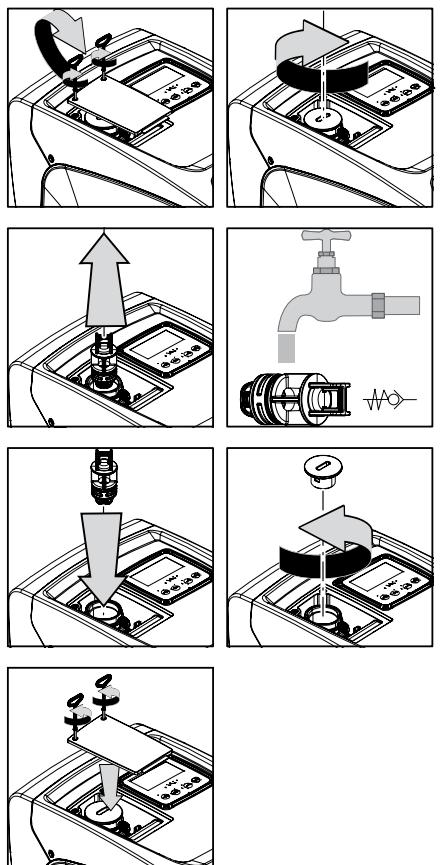

Figure 22
1. remove the access door to the special maintenance compartment (*Fig.1 Face F*) disengaging the 2 fixing screws with the accessory tool. It is advisable not to remove the screws completely, so that you can used them to extract the door. Take care not to drop the screws inside the system once you have removed the door (*Fig.22*);
2. using a screwdriver, remove the 1"1/4 cap so as to access the check valve (*Fig.22*);
3. using pliers, extract the cartridge of the check valve without rotating it, gripping it by the jumper provided for the purpose (*Fig.22*): the operation may require a certain effort;
5. put the complete cartridge back in its seat: the operation requires the force necessary to compress the 2 O-Rings (*Fig.22*);
6. Screw on the 1"1/4 cap until it is snug: if the cartridge has not been pushed correctly in place, screwing on the cap will complete its positioning (*Fig.22*);
7. reposition the door and tighten the 2 screws (*Fig.22*).